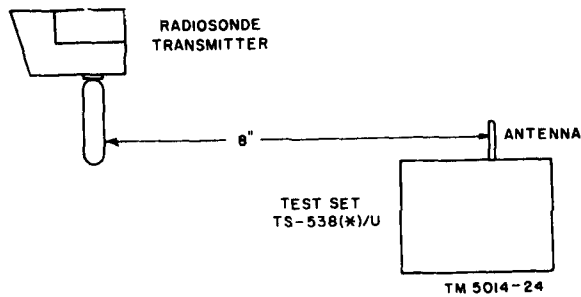

Figure 7. Checking power output of radiosonde transmitter.
b. Power Output Check (fig. 7). Ac power for the test set is not required for this test.
- (1) Follow the procedure in a(1) through (3) above.
- (2) Place the radiosonde transmitter antenna at the right rear corner of the test set and 24 inches away from the test set antenna. The lower end of the radiosonde transmitter antenna should be level with the top of the test set. Make sure the FREQUENCY METER dial is tuned off resonance with the transmitter. Slowly move the radiosonde transmitter toward the test set and observe the deflection on the power monitor meter. If the meter deflects into the GOOD portion of the scale before the radiosonde transmitter is within 8 inches of the test set, the power output is adequate and the test is completed.
- (3) If the meter deflection does not reach the GOOD portion, replace the batteries in the transmitter. If battery replacement does not help, replace the transmitter.